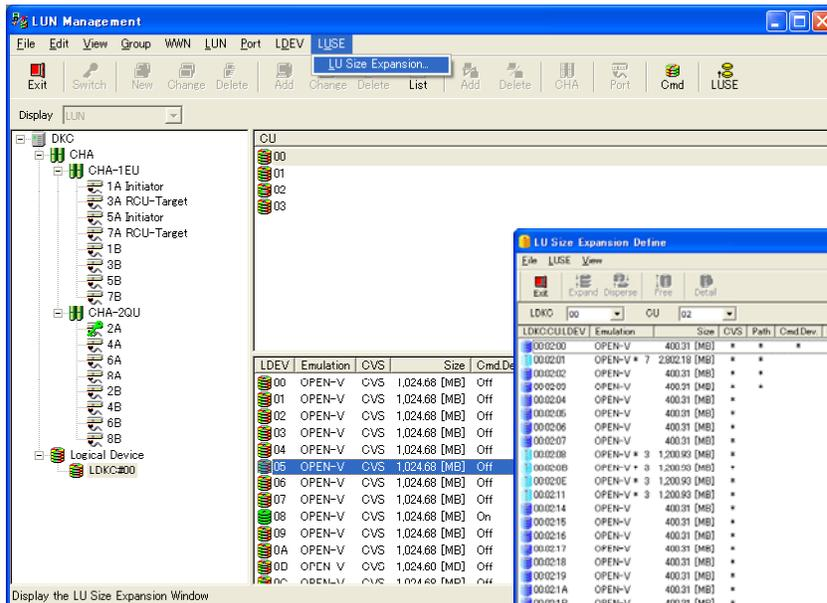

Fig. 3.10-9 Main Window
Select (DR) [LU Size Expansion ...] from the [LUSE] menu in the main window (Fig. 3.10-9).